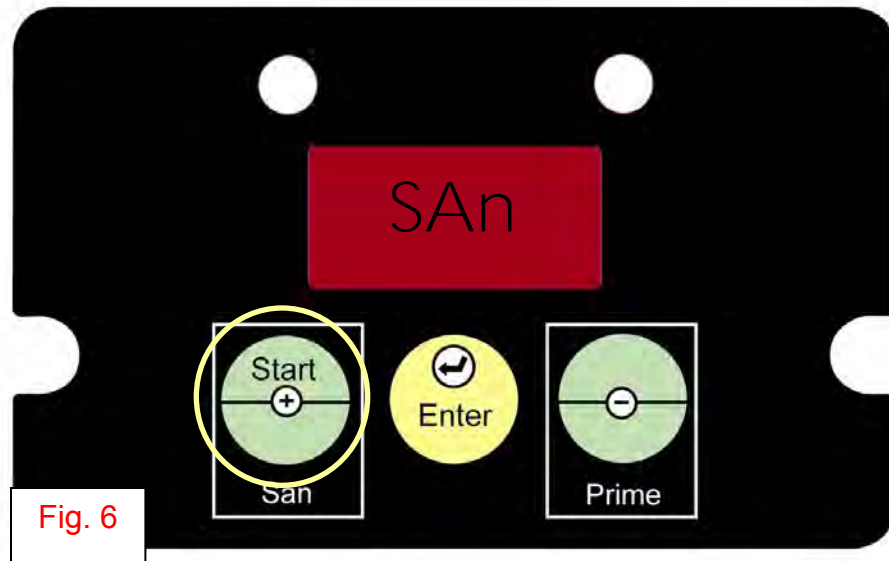

Fig. 6
- Press the Start button to enter sanitizing mode as shown in **figure 6**.